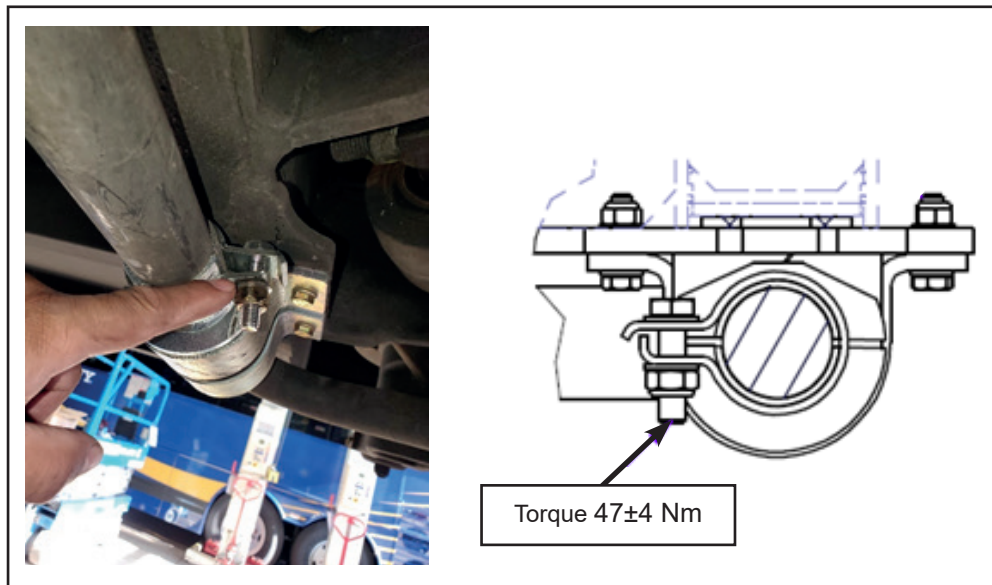

Figure 32 - Locknuts Tightening Torque
1.60. Torque locknuts to  $47 \pm 4$  Nm and torque seal (See Figure 32).